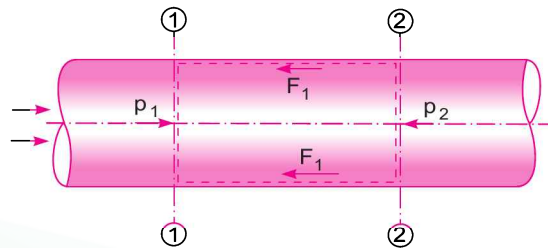

Fig. 10.3 Uniform horizontal pipe.
**10.3.1 Expression for Loss of Head Due to Friction in Pipes.** Consider a uniform horizontal pipe, having steady flow as shown in Fig. 10.3. Let 1-1 and 2-2 are two sections of pipe.
3. frictional force  $F_1$  as shown in Fig. 10.3.
**10.3.2 Expression for Co-efficient of Friction in Terms of Shear Stress.** The equation (10.1) gives the forces acting on a fluid between sections 1-1 and 2-2 of Fig. 10.3 in horizontal direction as